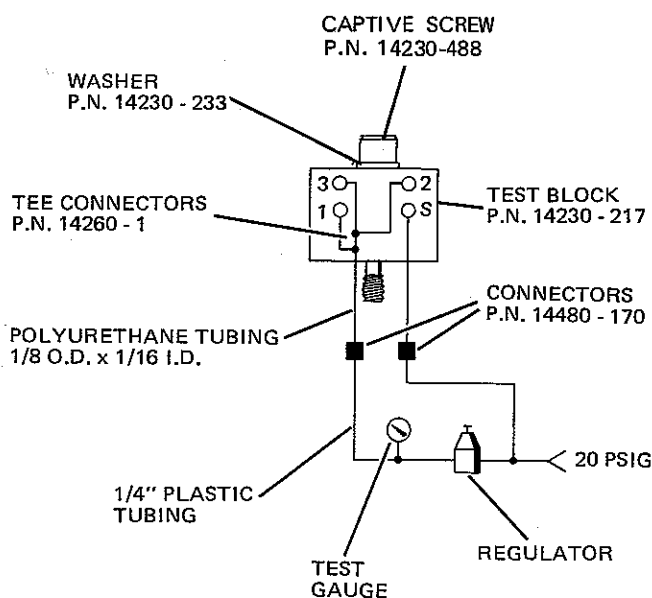

FIGURE 8 Calibration Test Hook-Up Method 1
1. Connect a test block as shown in Figure 8 to the chassis connection block, or